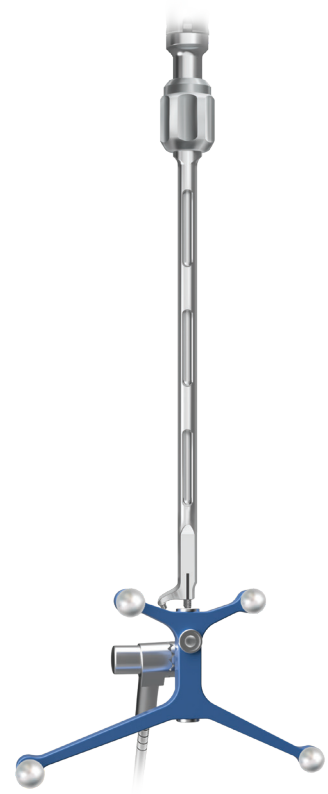

Figure 22
2. Verify the NavLock™ tracker with the Anteralign™ TL inserter. To do this, the Tip field must be set to Verify Inserter (**Figure 22**). The inner threaded shaft must be placed in the reference frame pivot.